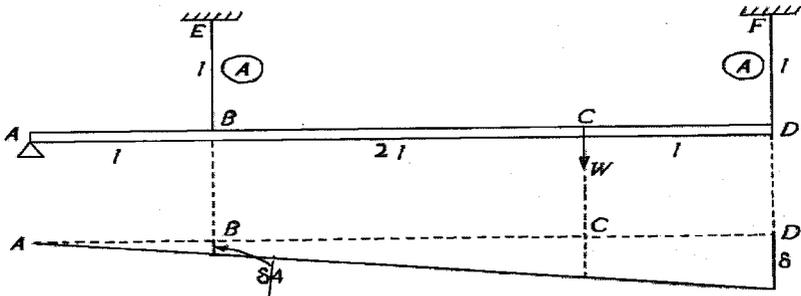

Fig. 2.2.
- (c) A rigid beam $ABCD$ of length $4l$ is supported by two vertical steel rods each of area A and length l and a hinged support at A as shown in fig. 2.2. The beam carries a point load W at C . Find the value of W . (i) at first yield and (ii) at collapse.